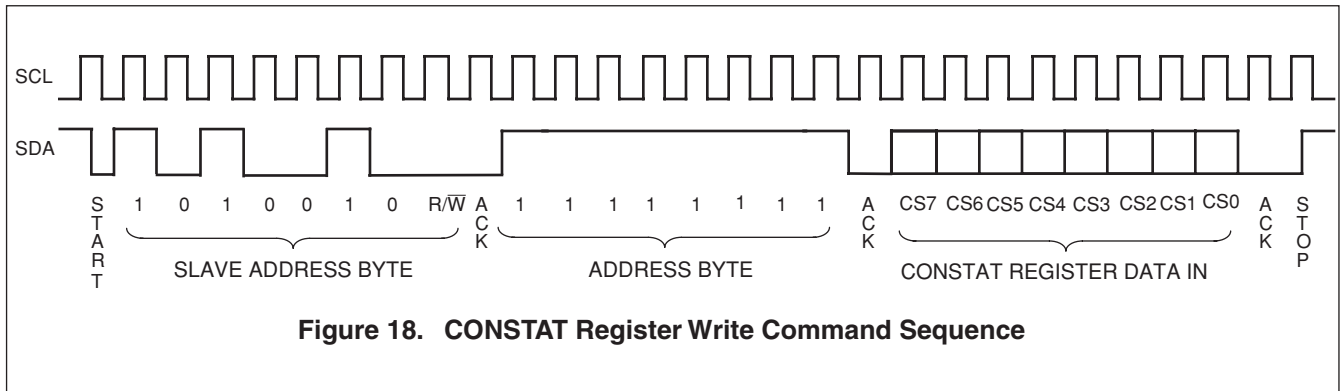

Figure 18. CONSTAT Register Write Command Sequence
Writes to the WEL bit do not cause an internal high voltage write cycle. Therefore, the device is ready for another operation immediately after a STOP condition is executed in the CONSTAT Write command sequence (See Figure 18).
- After a successful write operation to any bits of the CONSTAT register has been completed (See Figure 18).
Slave Address Byte, access to the CONSTAT register requires an Address Byte which must be set to FFh. Only one data byte is allowed to be written for each CONSTAT register Write operation. The user must issue a STOP, after sending this byte to the register, to initiate the nonvolatile cycle that stores the BP1 and BP0 bits. The X9521 will not ACKNOWLEDGE any data bytes written after the first byte is entered (Refer to Figure 18.).